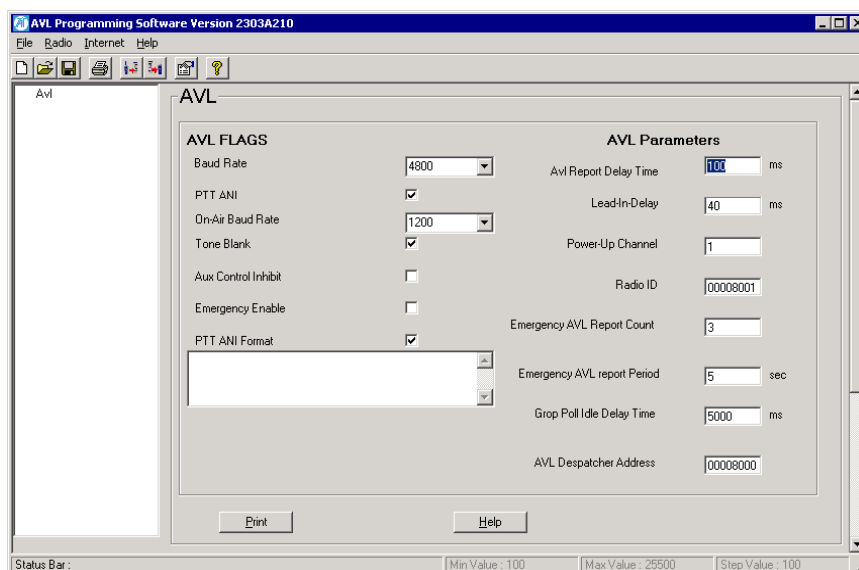

Figure 9
4. Program the T2000-A76/A78 using the '**AVL programming**' tool (see **figure 9**). A description of each field of the programming tool follows on from figure 9.
(Field descriptions - refer to figure 9)